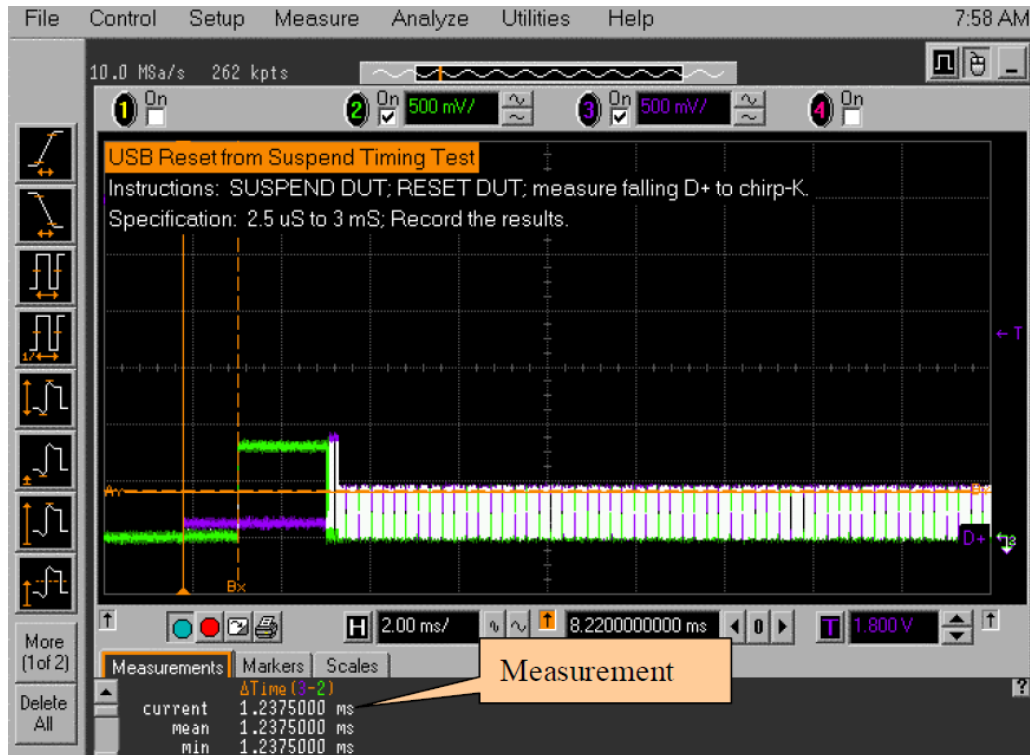

Figure 50. Device reset from suspend waveform
11. Select **Suspend**, and click on **Execute** to place the device into suspend once more. Then select **Reset** and click on **Execute** once to reset the device from suspend. The captured transition should appear as in Figure 50.